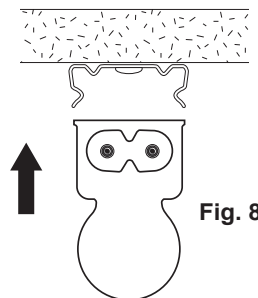
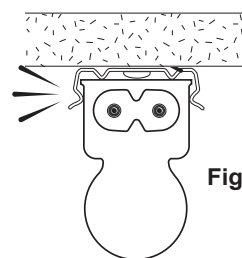

Fig. 8
Fig. 9
2. Firmly push the light into the clips (**Fig. 8**). Apply pressure until light snaps into clips (**Fig. 9**).